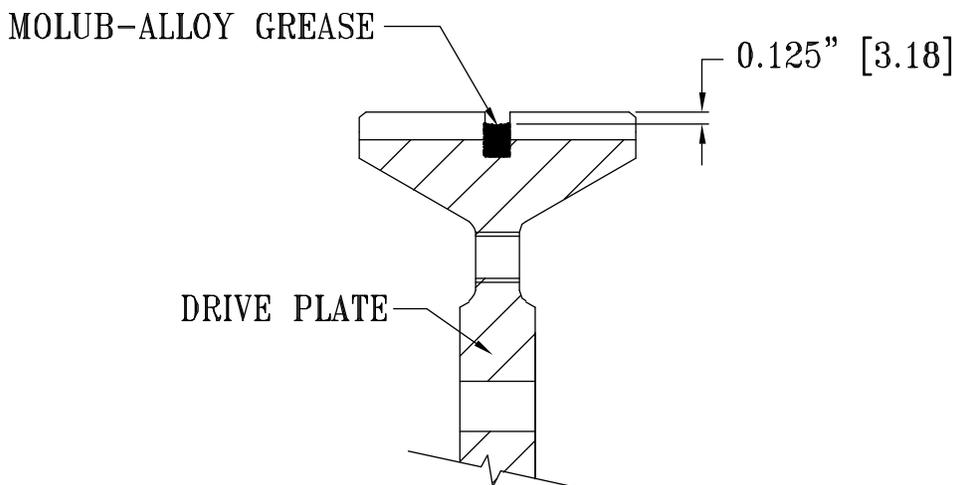

FIGURE 4
- 6.15 Pre-fill the grease channel in the drive plates (if applicable) with MOLUB-ALLOY OG Heavy Grease or equivalent as shown in the detail below. Use MOLUB-ALLOY 412 ES for Corrosion Resistance units. Fill the grease channel for 360 Deg. and to within .125" of the top of the grease channel as shown in **FIGURE 4**.